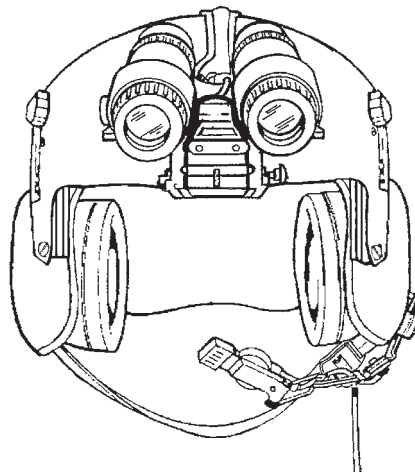

Figure 2-13. ANVIS Mount with ANVIS Goggles Installed
16. Install the ANVIS goggles (Figure 2-13) in accordance with TM 11-5855-263-10.